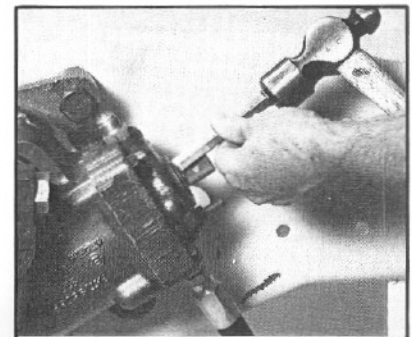

Figure 26
- 2.9 Install the new dirt and water seal (4), using the seal driving tool J26654 or a suitable blunt-ended drift (FIG. 26).